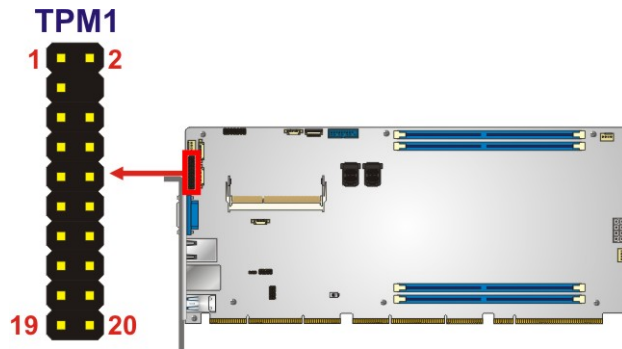

Figure 3-15: TPM Connector Location
- CN Location:** See **Figure 3-15**